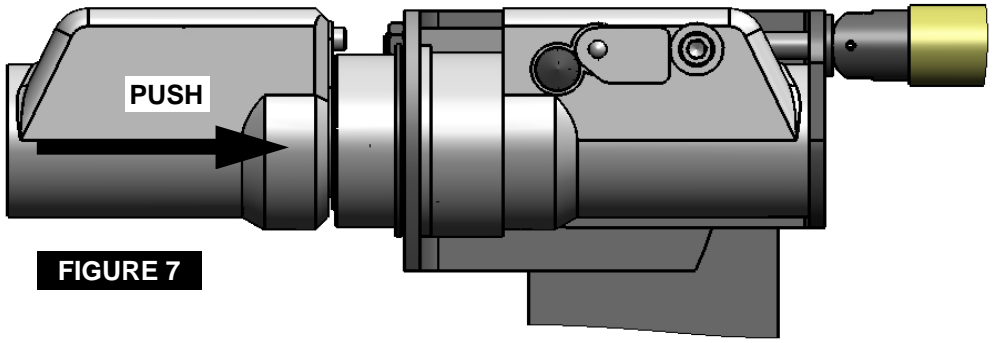

FIGURE 7
2. **Make sure all Bleed Valves are open**, then insert the Male half into the Female Socket as far as possible using only hand pressure as shown in figure 7.